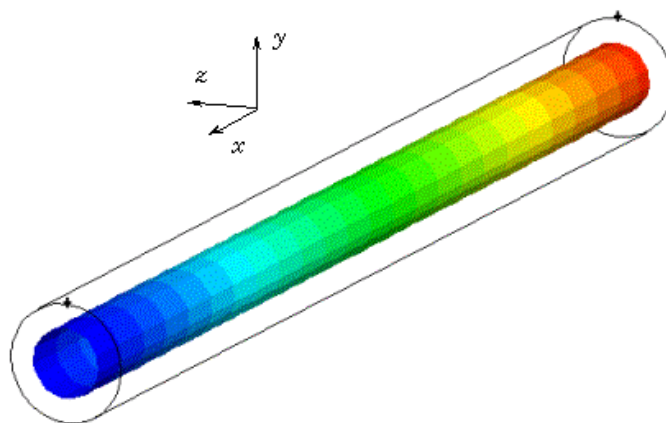

Figure 9.5.14: Cylinder Object
The Axis defines the location and direction of the cylinder axis. The cylinder shown in Figure 9.5.14 employs the positive (or negative) x axis of the global coordinate system as the Axis vector, therefore the cylinder is aligned with the axis of the pipe. The global coordinate system, which is not shown in the figure, is located along the centerline of the pipe.
- A **Volume** attachment entity displays a three-dimensional, cylindrical volume as shown in Figure 9.5.14.